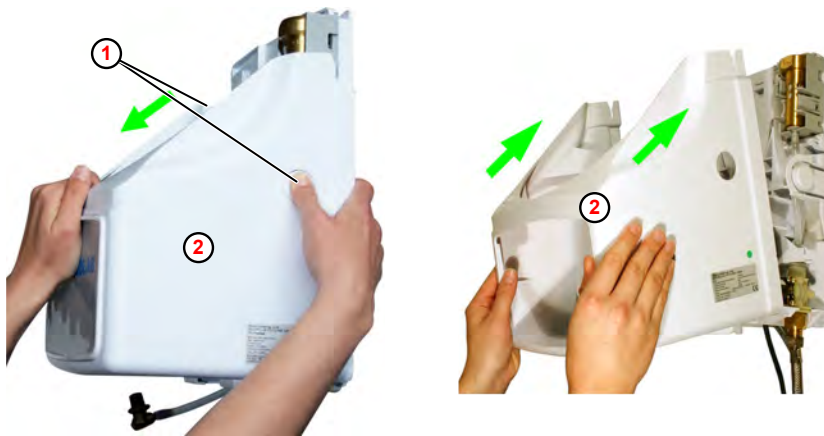

Fig. 16: Removing/installing the hood (example with EcoPlus S)
1. ➤ Press both buttons ( Fig. 16 , ① ) on the housing (right and left).
2. ➤ Remove the housing ② forwards.